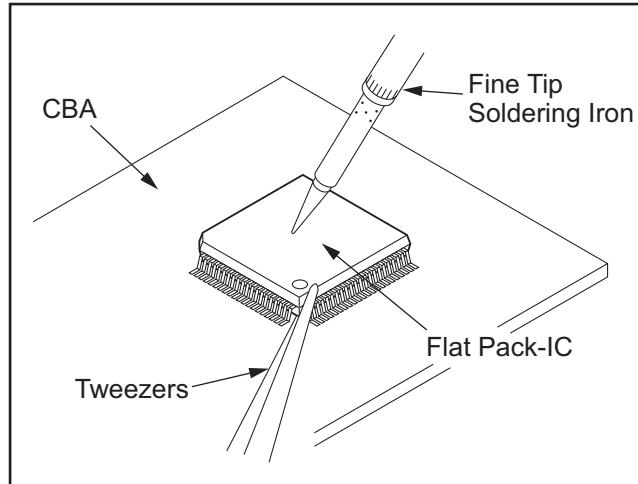

Fig.6
- (2) Remove the flat pack-IC with tweezers while applying the hot air.
(3) Bottom of the flat pack-IC is fixed with glue to the CBA; when removing entire flat pack-IC, first apply soldering iron to center of the flat pack-IC and heat up. Then remove (glue will be melted). (Fig. 6)
(4) Release the flat pack-IC from the CBA using tweezers. (Fig. 6)
- (3) Bottom of the flat pack-IC is fixed with glue to the CBA; when removing entire flat pack-IC, first apply soldering iron to center of the flat pack-IC and heat up. Then remove (glue will be melted). (Fig. 6)
- (4) Release the flat pack-IC from the CBA using tweezers. (Fig. 6)
- (4) Bottom of the flat pack-IC is fixed with glue to the CBA; when removing entire flat pack-IC, first apply soldering iron to center of the flat pack-IC and heat up. Then remove (glue will be melted). (Fig. 6)
- (5) Release the flat pack-IC from the CBA using tweezers. (Fig. 6)